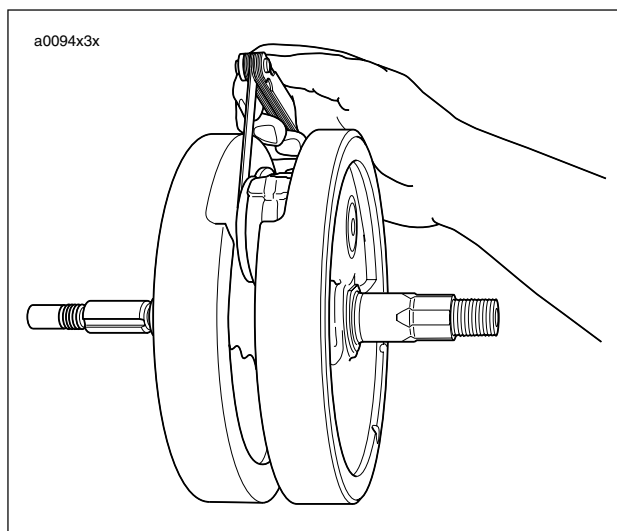

Figure 3-147. Checking Connecting Rod Side Play
1. See Figure 3-147. Check connecting rod side play with a thickness gauge as shown.